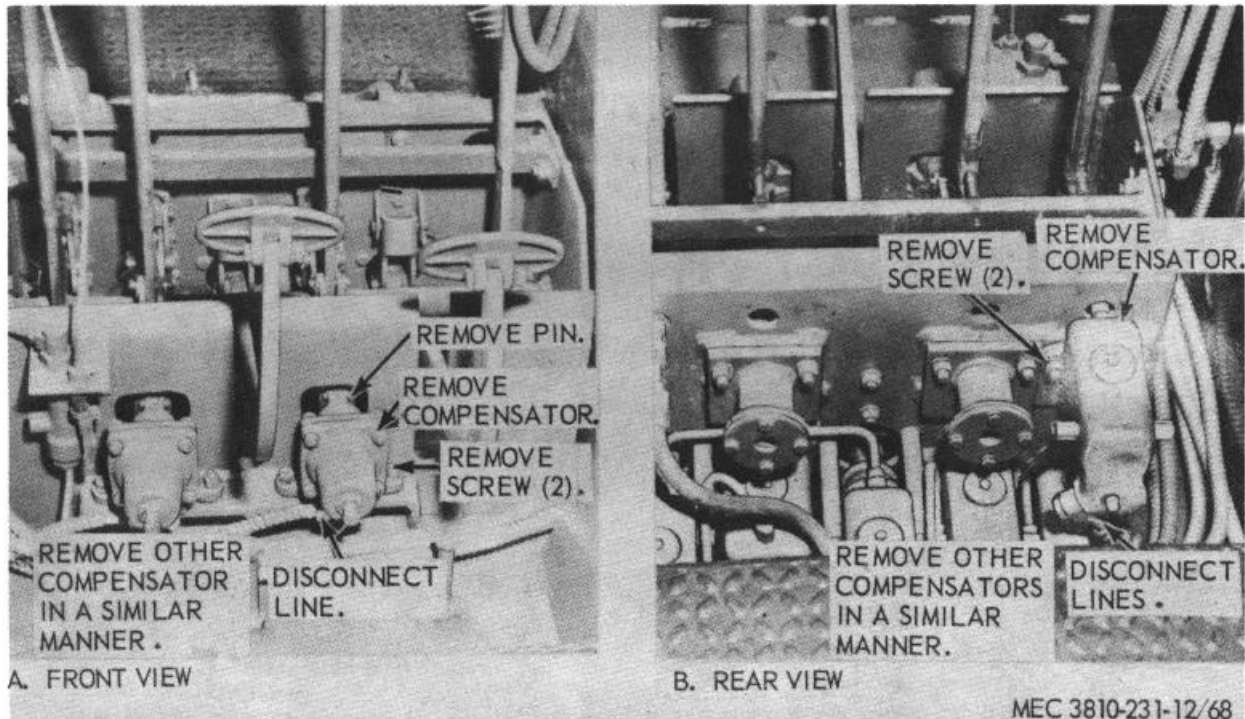
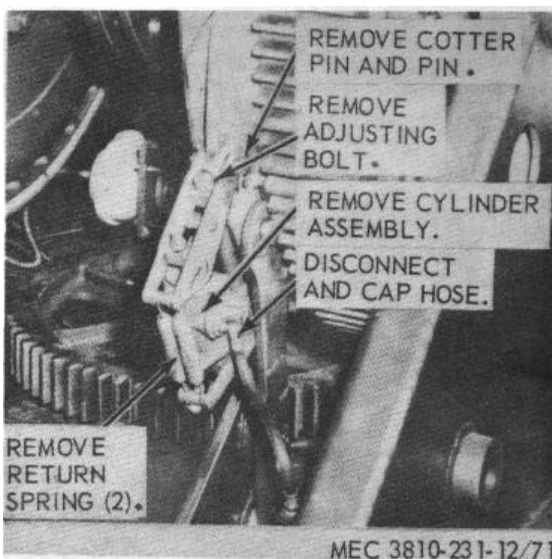

Figure 68. Control stand hydraulic compensators, removal and installation.
Figure 72. Brake or clutch operating mechanism assembly.
a. Fill the supply tank or reservoir with clean hydraulic brake fluid and check the level frequently during the bleeding operation to prevent air from entering the supply line. Open the valve below the tank, than bleed the air from the bleeder cap on each compensator in the control stand (fig. 68). Start with the lower compensators and work
a. *Removal.* Remove the compensator as shown in figure 68.
- (1) Clean all parts in an approved cleaning solvent and dry thoroughly.
- (2) Inspect for cracks, breaks, leaks and other damage.
a. *Adjustment (fig. 72).*
- (1) To adjust for lining wear of a brake or clutch, loosen lock nut and tighten adjusting bolt. Do not tighten adjusting bolt more than necessary for good operation of the brake or clutch. If adjustment is too tight, the operating levers work hard and linings wear too fast.
- (2) Tighten lock nut after adjustment is complete. A few drops of light oil
- (3) Replace a damaged or defective compensator.
c. *Installation.* Install the compensator as shown on figure 68.
on each end of trunnions, (A and B, fig. 72), when adjusting, will keep the assembly working freely.
- (1) Install operating mechanism as shown on figure 72.